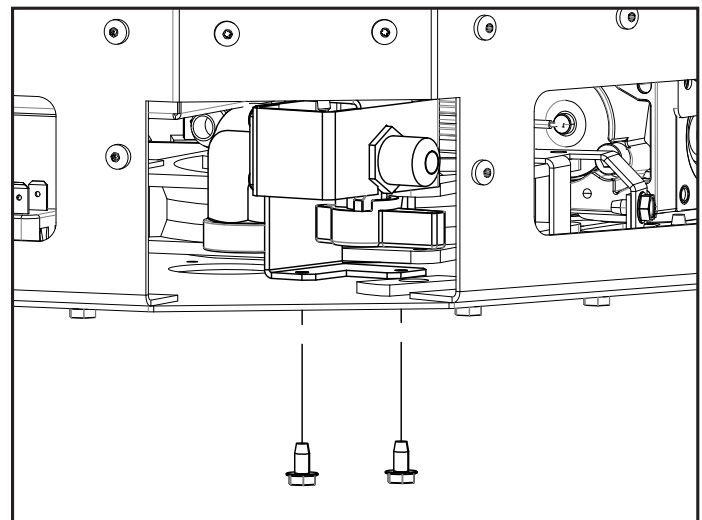

Figure 89: Gas Connection Re-installation
5. Work the flex line and get the gas connection assembly into position as shown in Figure 89. Attach the assembly to the firebox using two (2) 5/16" hex head bolts from below.